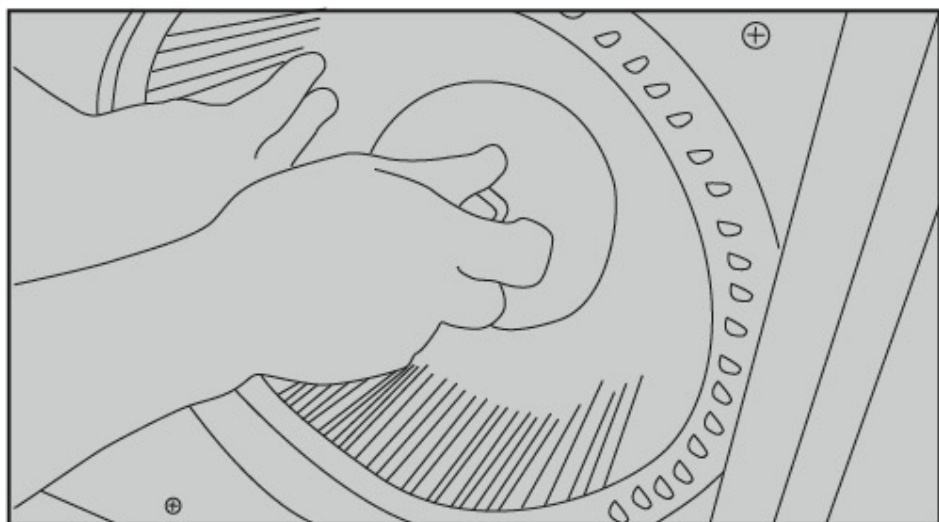

Fig.8
- 7. Unscrew the locknut in clockwise direction, and remove the vane (see Figure 8).